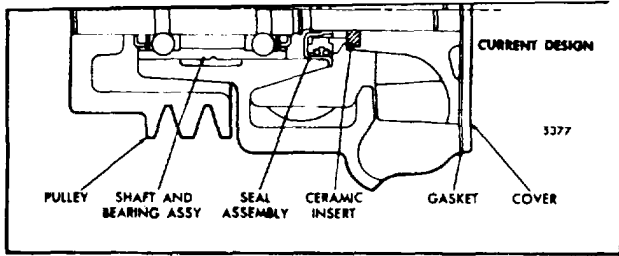
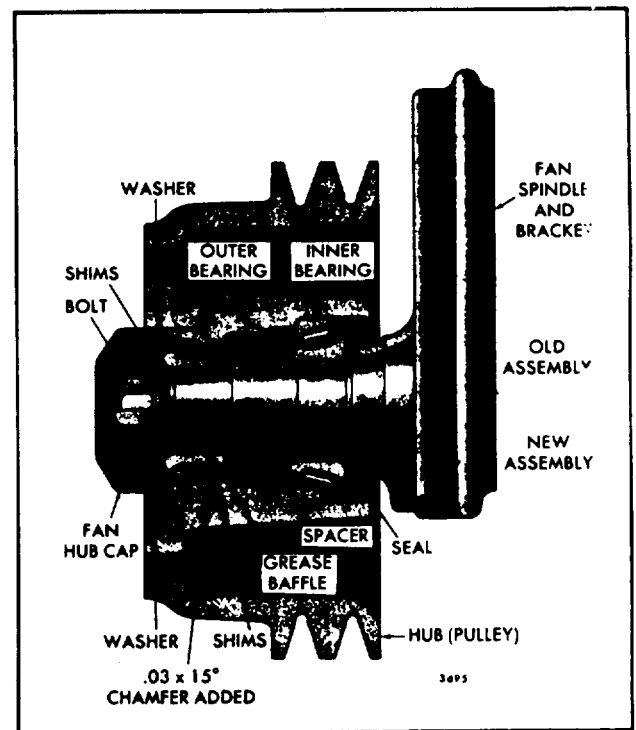

Fig. 7. - Comparison of Water Pumps
Fig 3. Spindle Type Fan Hub Assembly (6V Engine)
The water pump assemblies used includes an impeller and ceramic insert combination (Figs. 7 and 8). Disassembly and assembly of the current water pump is the same as the former water pump except as follows:
(Fig. 3) Also remove the shims if the former type fan hub assembly illustrated in Fig. 7 is used.
5. Remove the bearing spacer (Fig. 7) and shims (if the current type hub assembly is used).
The stindle-type fan hub assembly illustrated in Fig. 3 has also been revised. A bearing spacer has been added and a new outer bearing, which provides a closer fit on the shaft, replaces the old. A baffle has also been added to retain the grease and assure lubrication at the outer bearing. To facilitate installation of the grease baffle, a .030" by 15° chamfer has been added to the bore in the pulley.
Assemble the fan hub and spindle shown in Fig. 3 and 4 as follows: